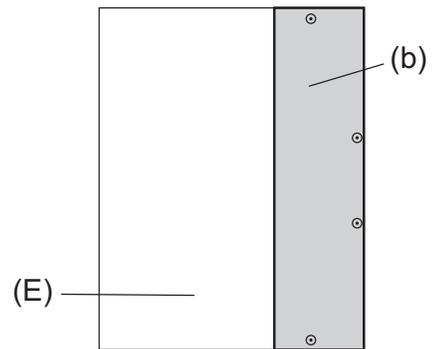

Fig.7
• To avoid dew condensation, use insulated screws in the places marked with circles in Figure 7.